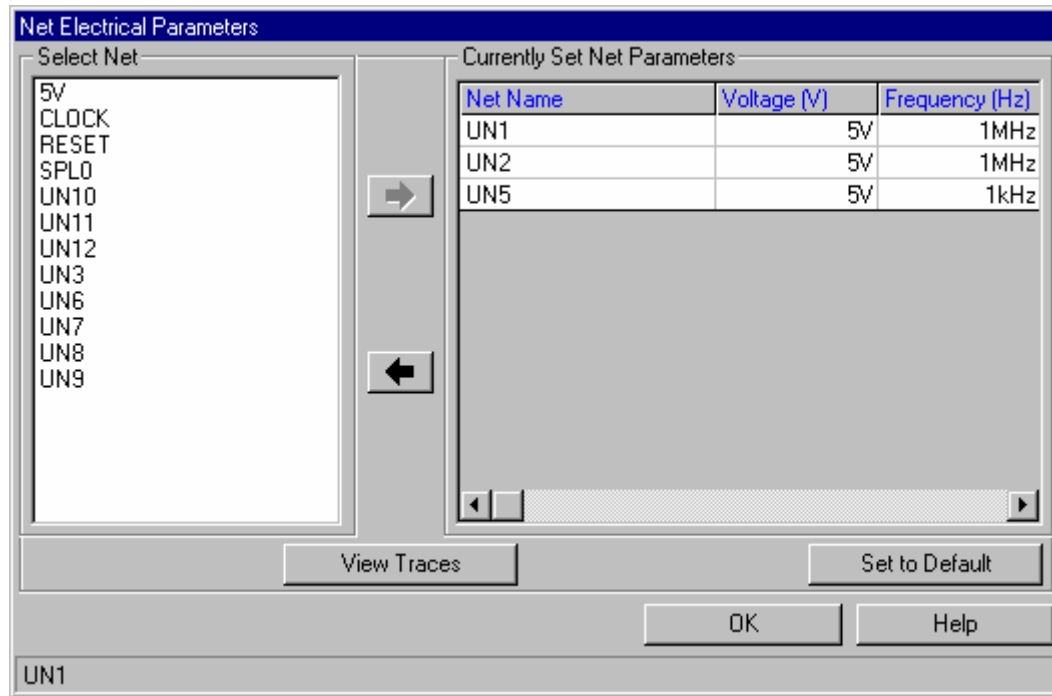

Fig. 9.5
5. If you select the SET TO DEFAULT button, the default parameter gets loaded into the text boxes (Refer Fig.9.5).